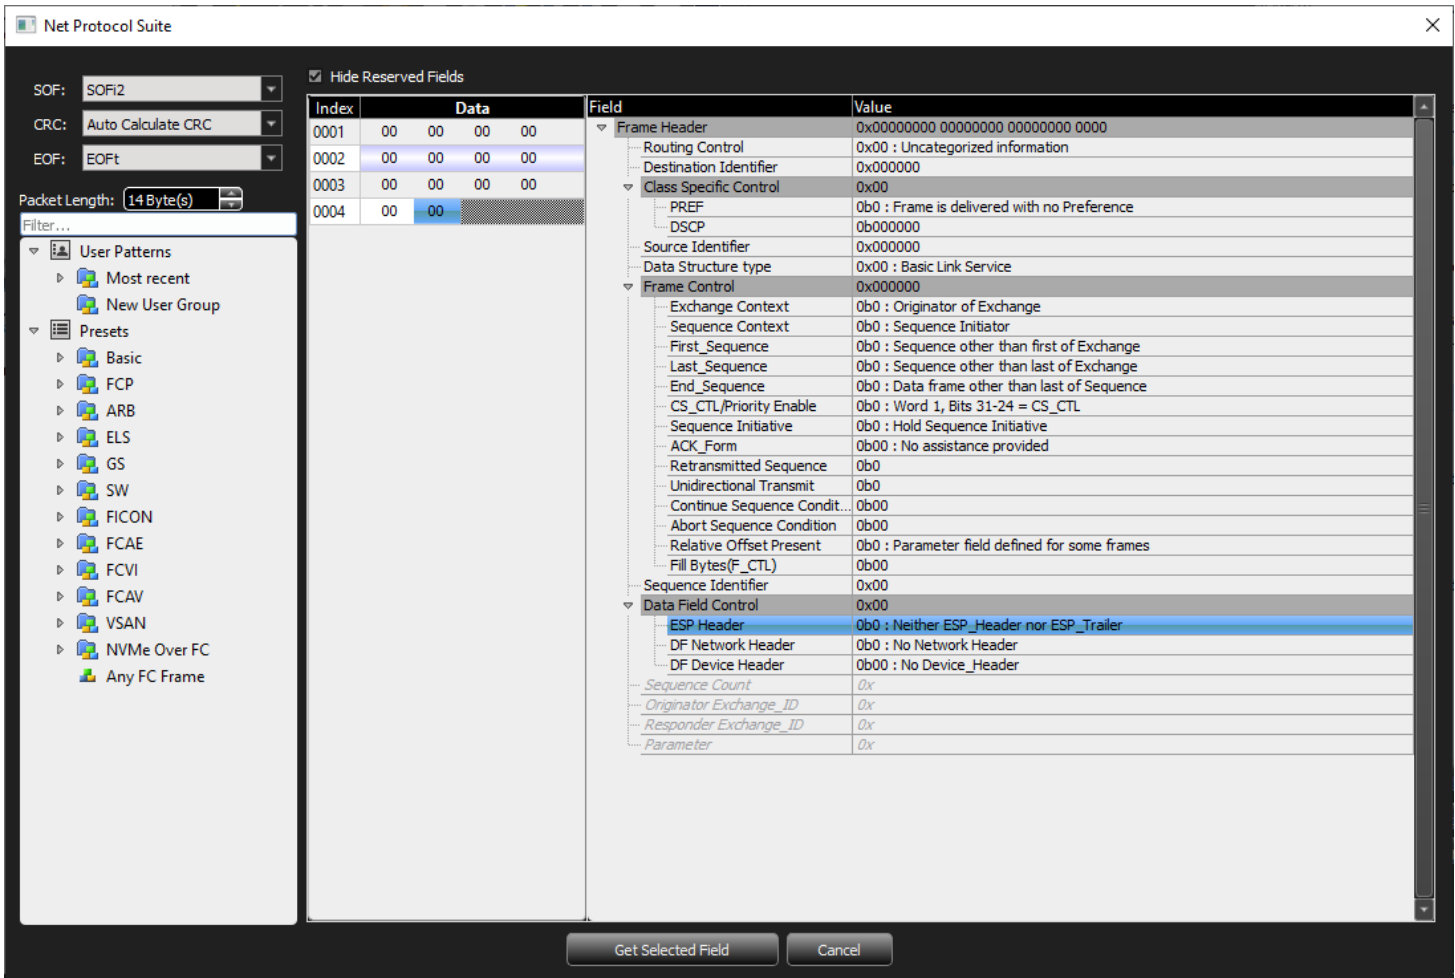

Figure 8.50: LRF Field Dialog Window
1. To select a field, drag the **LRF** to the script body in the middle pane. This opens the dialog window (Figure 8.50).